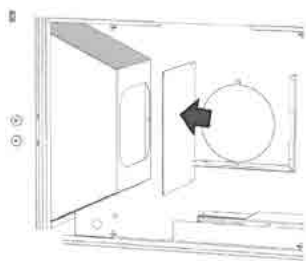

FIG.18
- › Fix the blanking plug to the hole where the motor was before, using the the four screws supplied. (Fig.18)